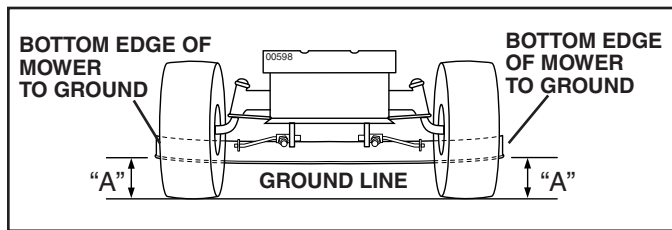

FIG. 25
**SIDE-TO-SIDE ADJUSTMENT** (See Figs. 25 and 26)